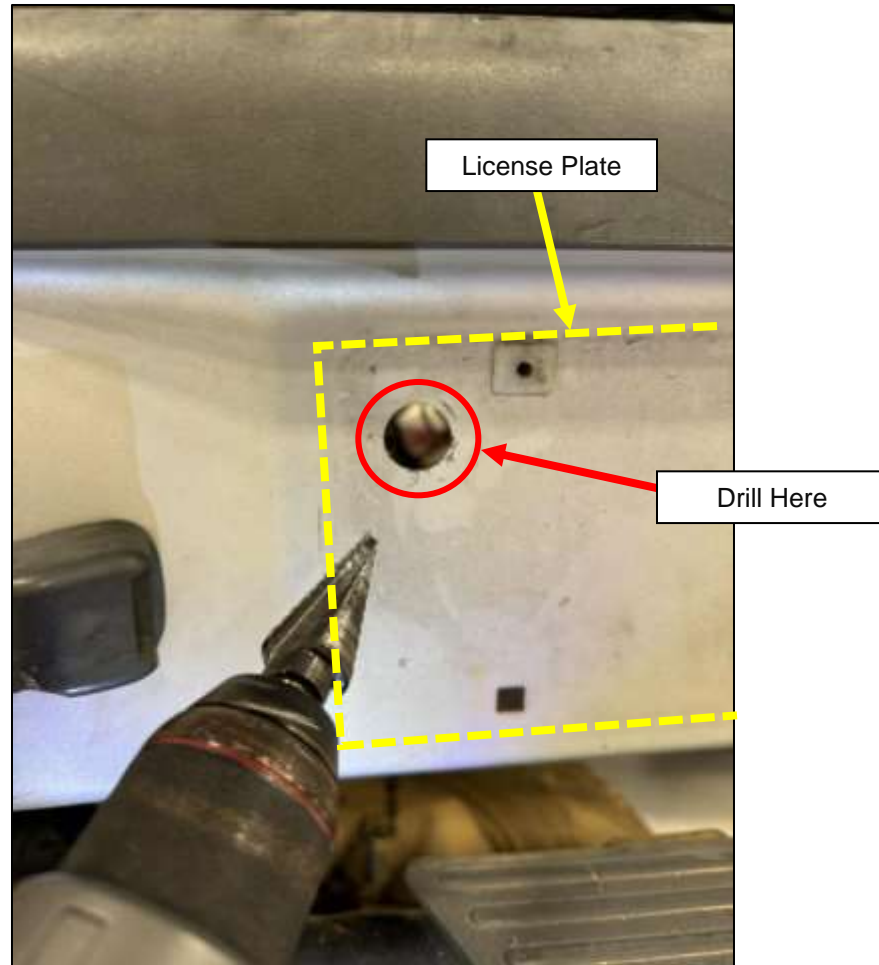

Figure 27
39. Drill a Hole under where the License Plate Mounts as an access hole for the Spare Tire. It needs to be big enough to insert and rotate the spare tire tool. *Figure 27.*